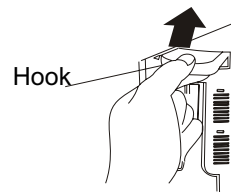

Figure 2
- (1).Install the corrugation pipe.
- (2).Insert the mounting plate at the bottom of the filter into the valve cover.
- (3).Hang up the hook at upper side.
- (4).Push the upper part in as indicated in Figure 2.